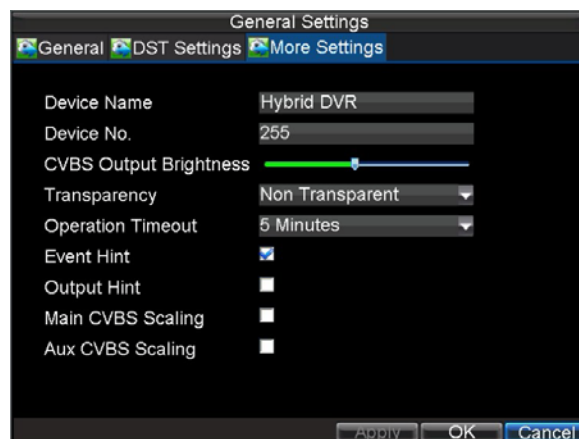

Figure 2. More Settings Menu
2. Click the **More Settings** tab; this will take you to the More Settings menu, shown in Figure 2.